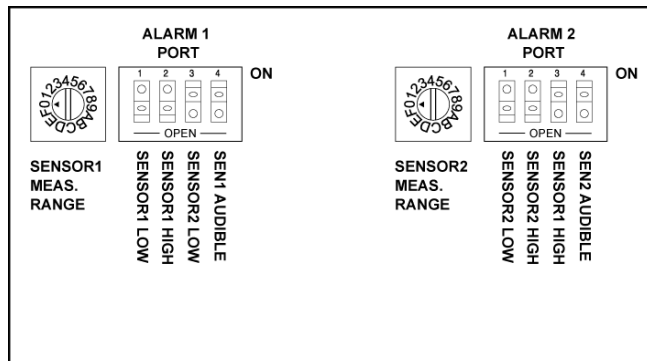

Figure 17. Sensor Measuring Range Rotary Switches
2. On the main board, locate the SENSOR 1 MEAS. RANGE and SENSOR 2 MEAS. RANGE rotary switches (Figure 17).